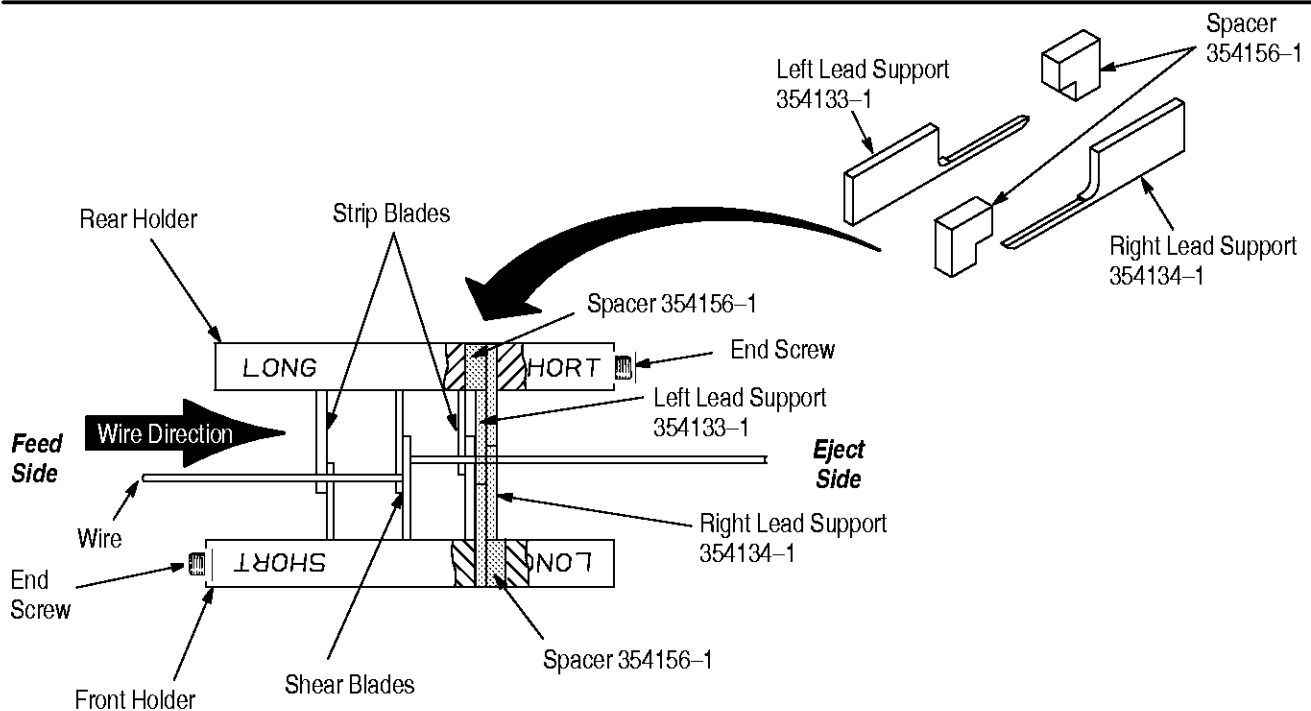

Figure 7
Included in the Short Lead Kit are two modified spacers and two lead supports. As shown in Figure 7, these components are used to modify the blade holders in the machine's cut/strip assembly for short lead stripping. Install as follows:
1. Remove the blade holders from the cut/strip assembly and orient them on a bench as shown in Figure 7.